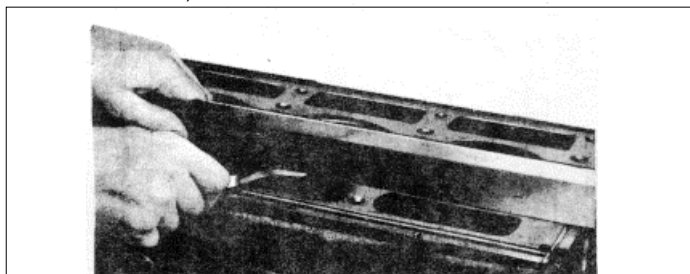

Fig. 16
- (5) Check the top of the block for flatness with an accurate straight edge and a feeler gauge (Fig. 16).